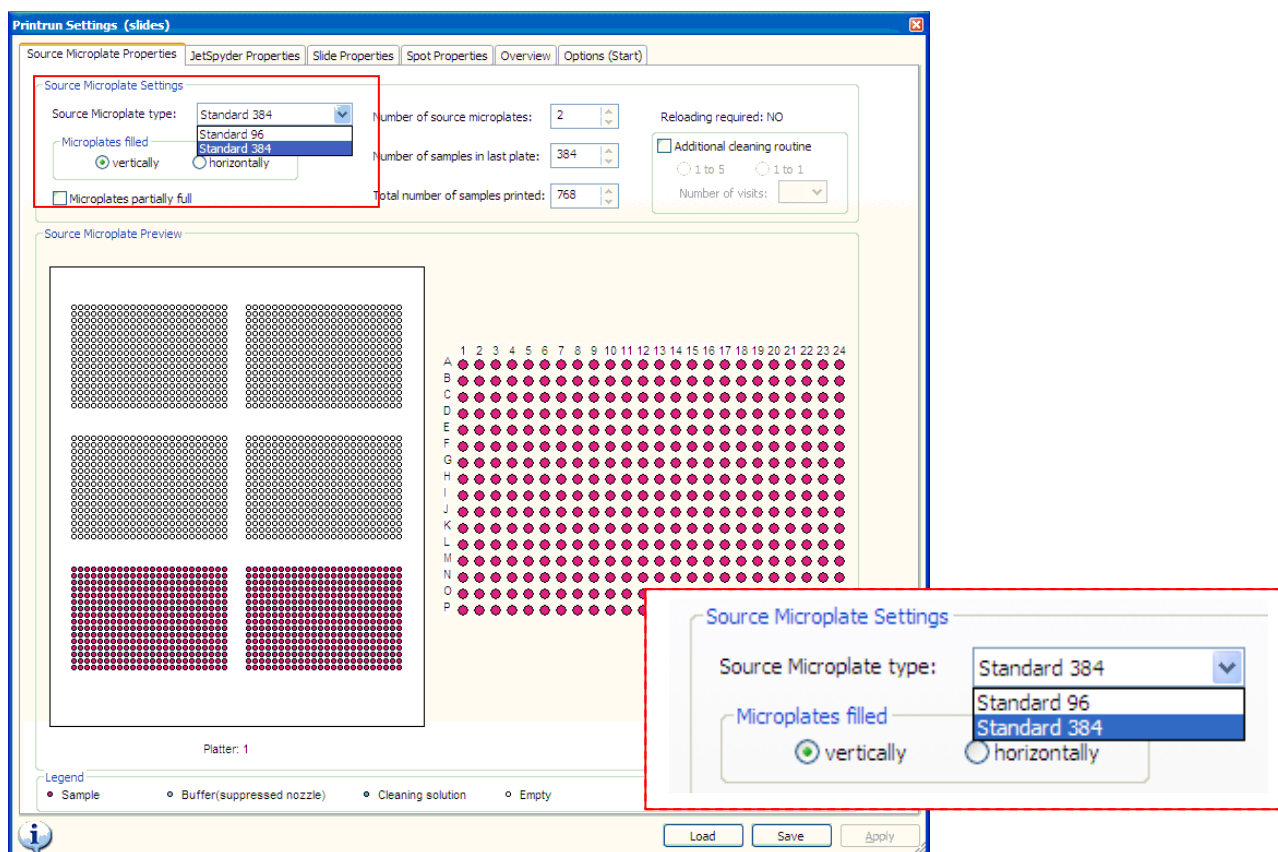

Figure 6-3 The Source Microplate Properties tab
- Choose between a **96-well or 384-well microplate type** as shown in **Figure 6-3**.